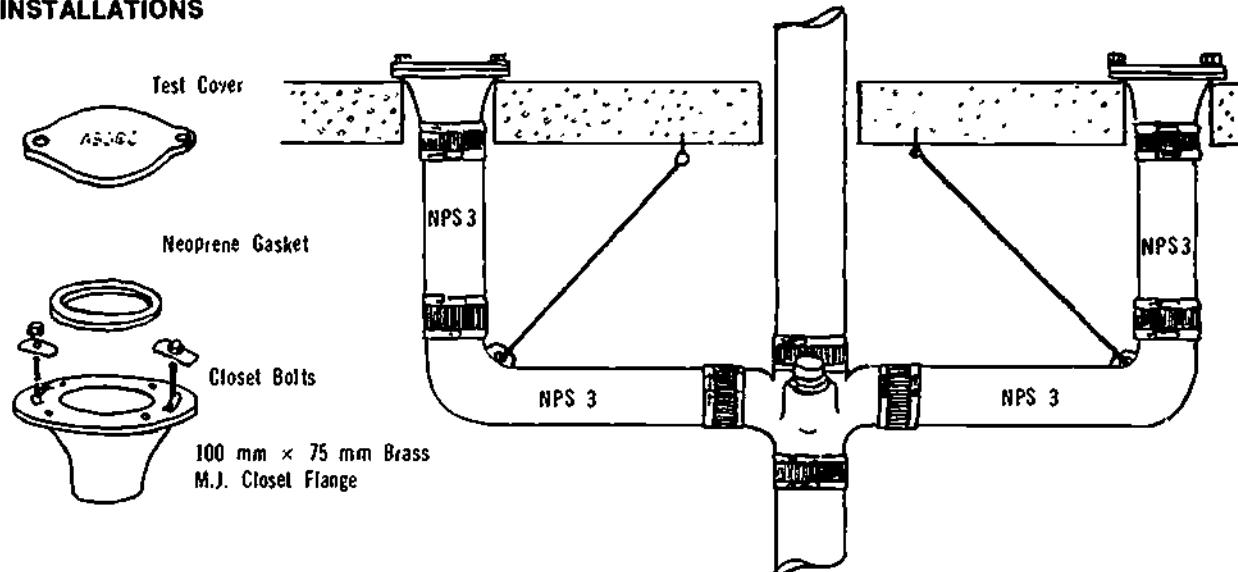
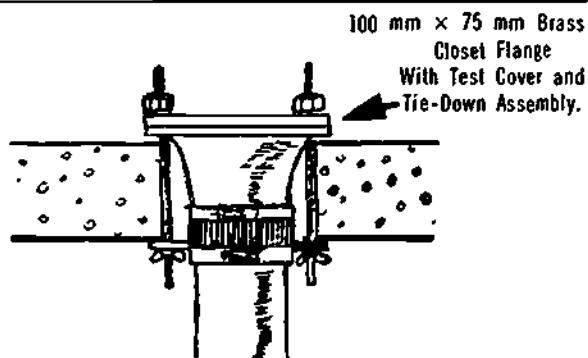

Figure 4-16. Piping Installation Through Flooring
Figure 4-17. Closet Flange Assembly
6. The cast-on hanger eye on some closet bends (Figure 4-16) lessens installation time and helps to protect against costly blow-outs during tests. Closet flanges are also available with the tie-down assembly bolts (Figure 4-17).